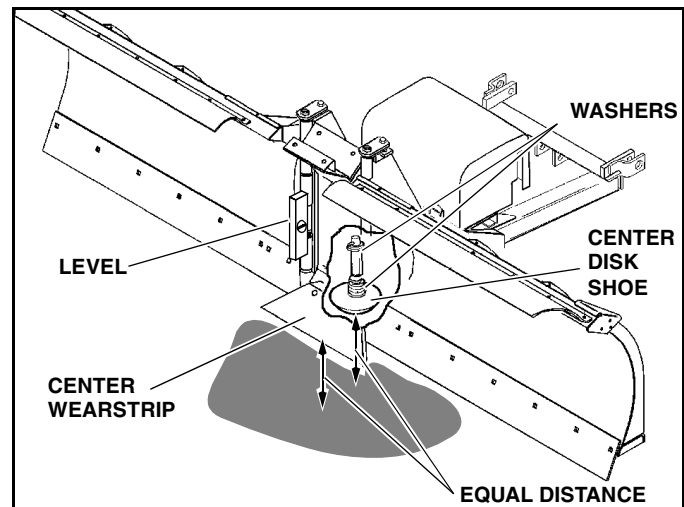

Figure 1-8
5. Determine whether the center disk shoe or the center wearstrip is off the ground and measure the amount that it is off the ground. (See Figure 1-8)